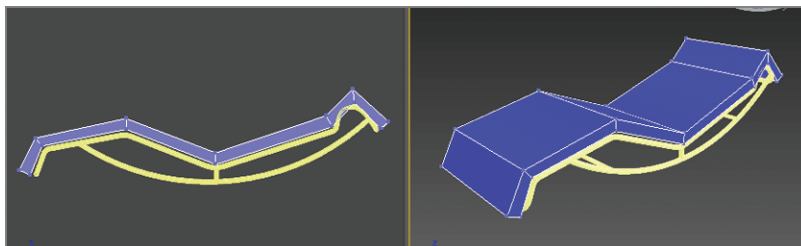

FIGURE 4.28 Arrange the vertices on the box so they follow the lounge chair frame.
5. Switch to **Vertex mode (1)**; select and move the vertices where the segments are and line them up to follow the chair frame, as shown in Figure 4.28.